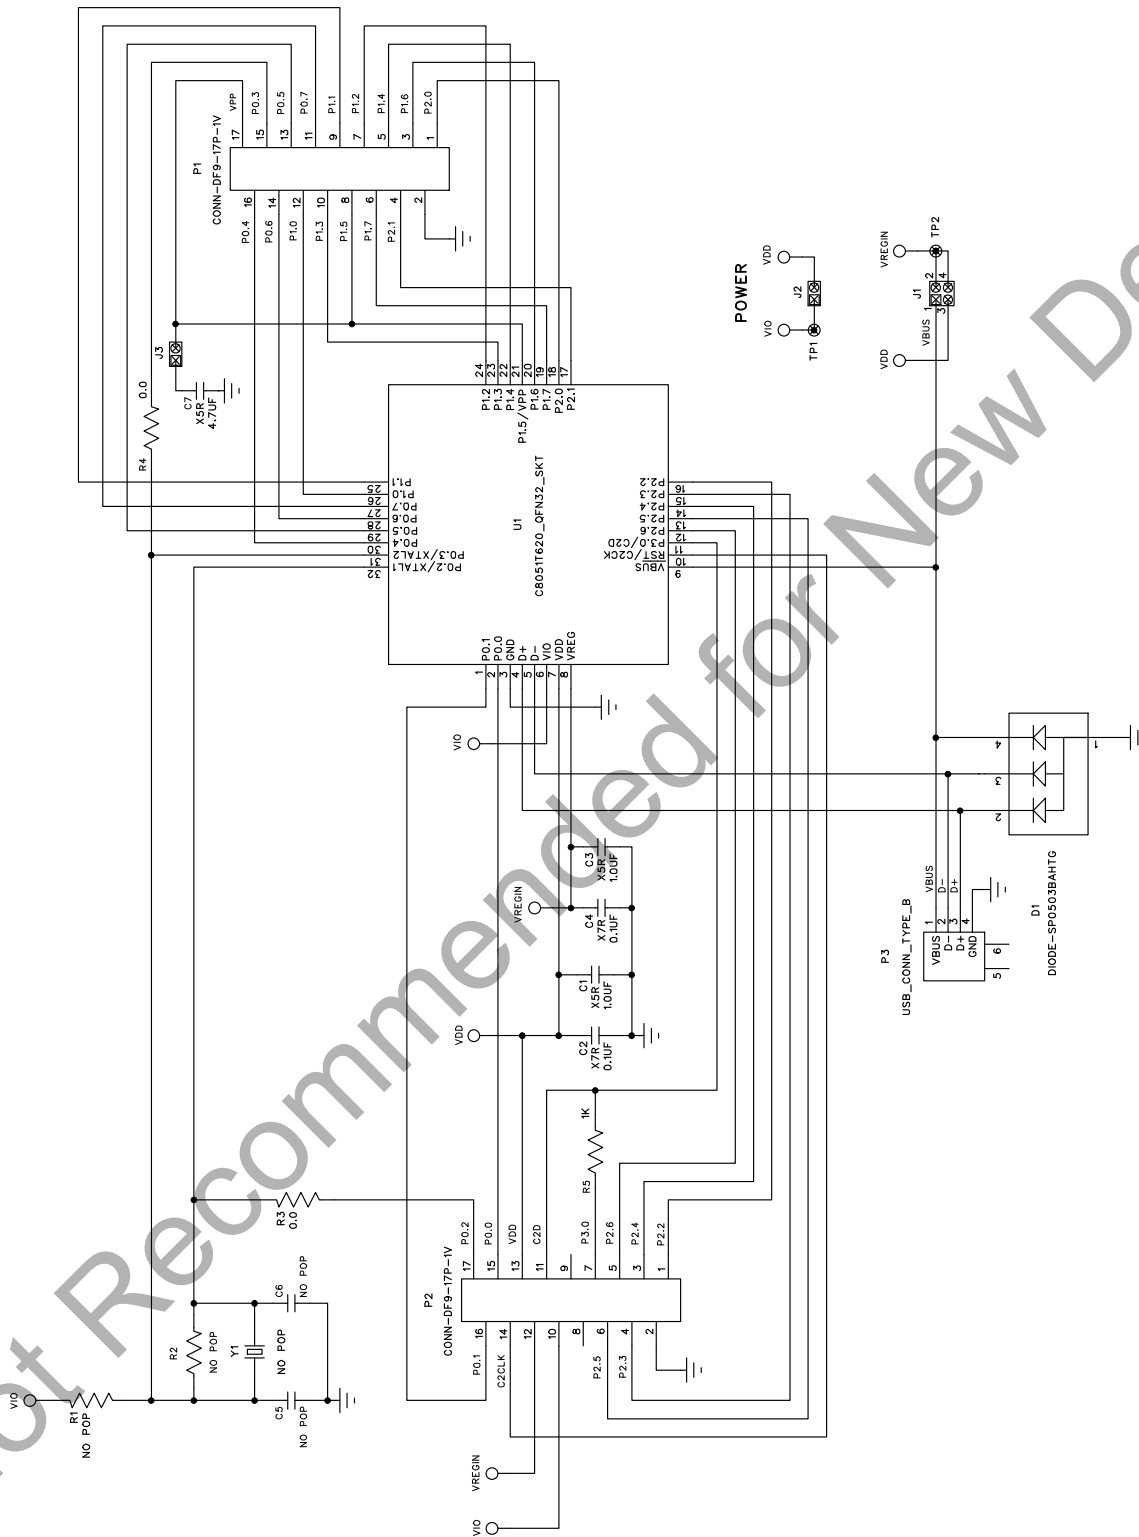

Figure 17. C8051T620 QFN-32 Daughter Board Schematic
- Updated Figure 17 on page 22.